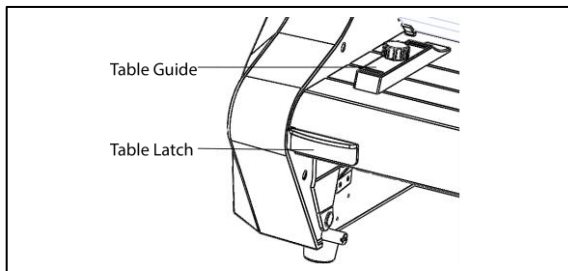

Figure 5
5. **FEED TABLE LATCHES:** (figure 5) Used to unlock and lock the FEED TABLE.
6. **FEED TABLE GUIDE:** (figure 5) Aligns items as they are fed into the laminator. Helpful on longer items to reduce skew. The guide can be moved by loosening the knob and sliding the guide to the desired position and then tightening the knob.